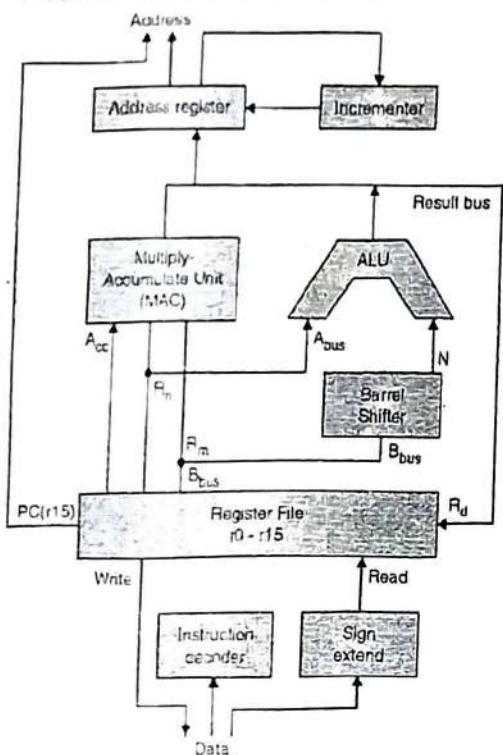

Fig. 11.2.1 : ARM core data flow model
- Fig. 11.2.1 shows the ARM core data flow model. It supports Von-Neumann architecture.